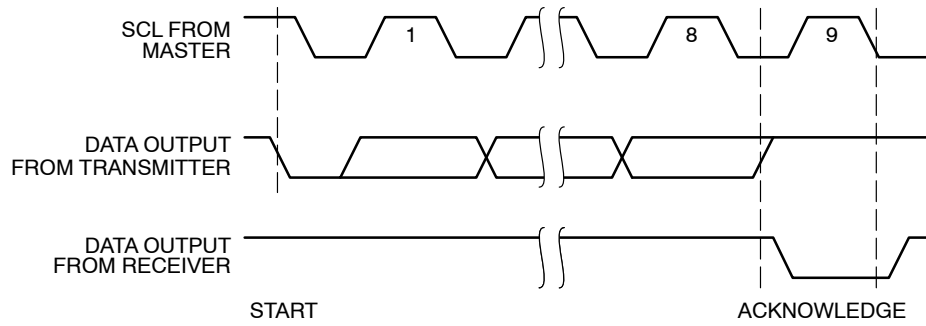
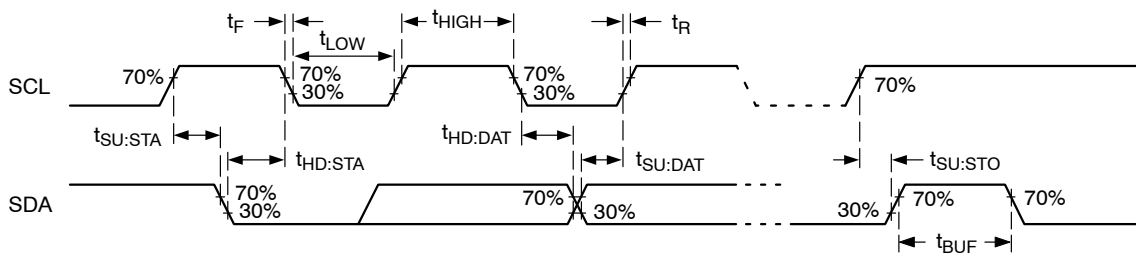

Figure 13. Acknowledge Timing
Figure 14. Bus Timing
- Timing reference points are set at 30%, respectively 70% of V_{CC} , as illustrated in Figure 14. Bus loading must be such as to allow meeting the V_{IL} , V_{OL} as well as the various timing limits.
A matching Slave address is acknowledged (ACK) by the Slave by pulling down the SDA line during the 9th clock cycle (Figure 13). After that, the Slave will acknowledge all data bytes sent to the bus by the Master. When the Slave is the transmitter, the Master will in turn acknowledge data bytes in the 9th clock cycle. The Slave will stop transmitting after the Master does not respond with acknowledge (NoACK) and then issues a STOP. Bus timing is illustrated in Figure 14.